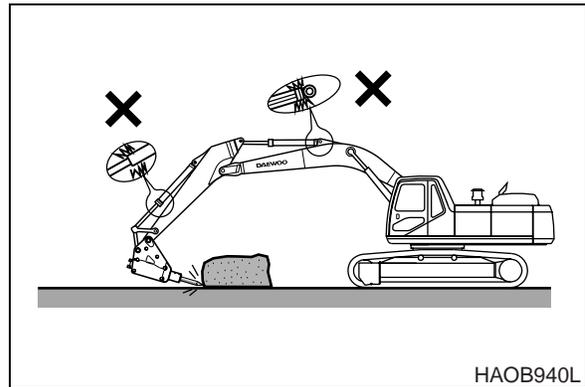

Figure 72
4. DO NOT operate the breaker with the boom or arm cylinders fully extended (bottomed out). See Figure 72.